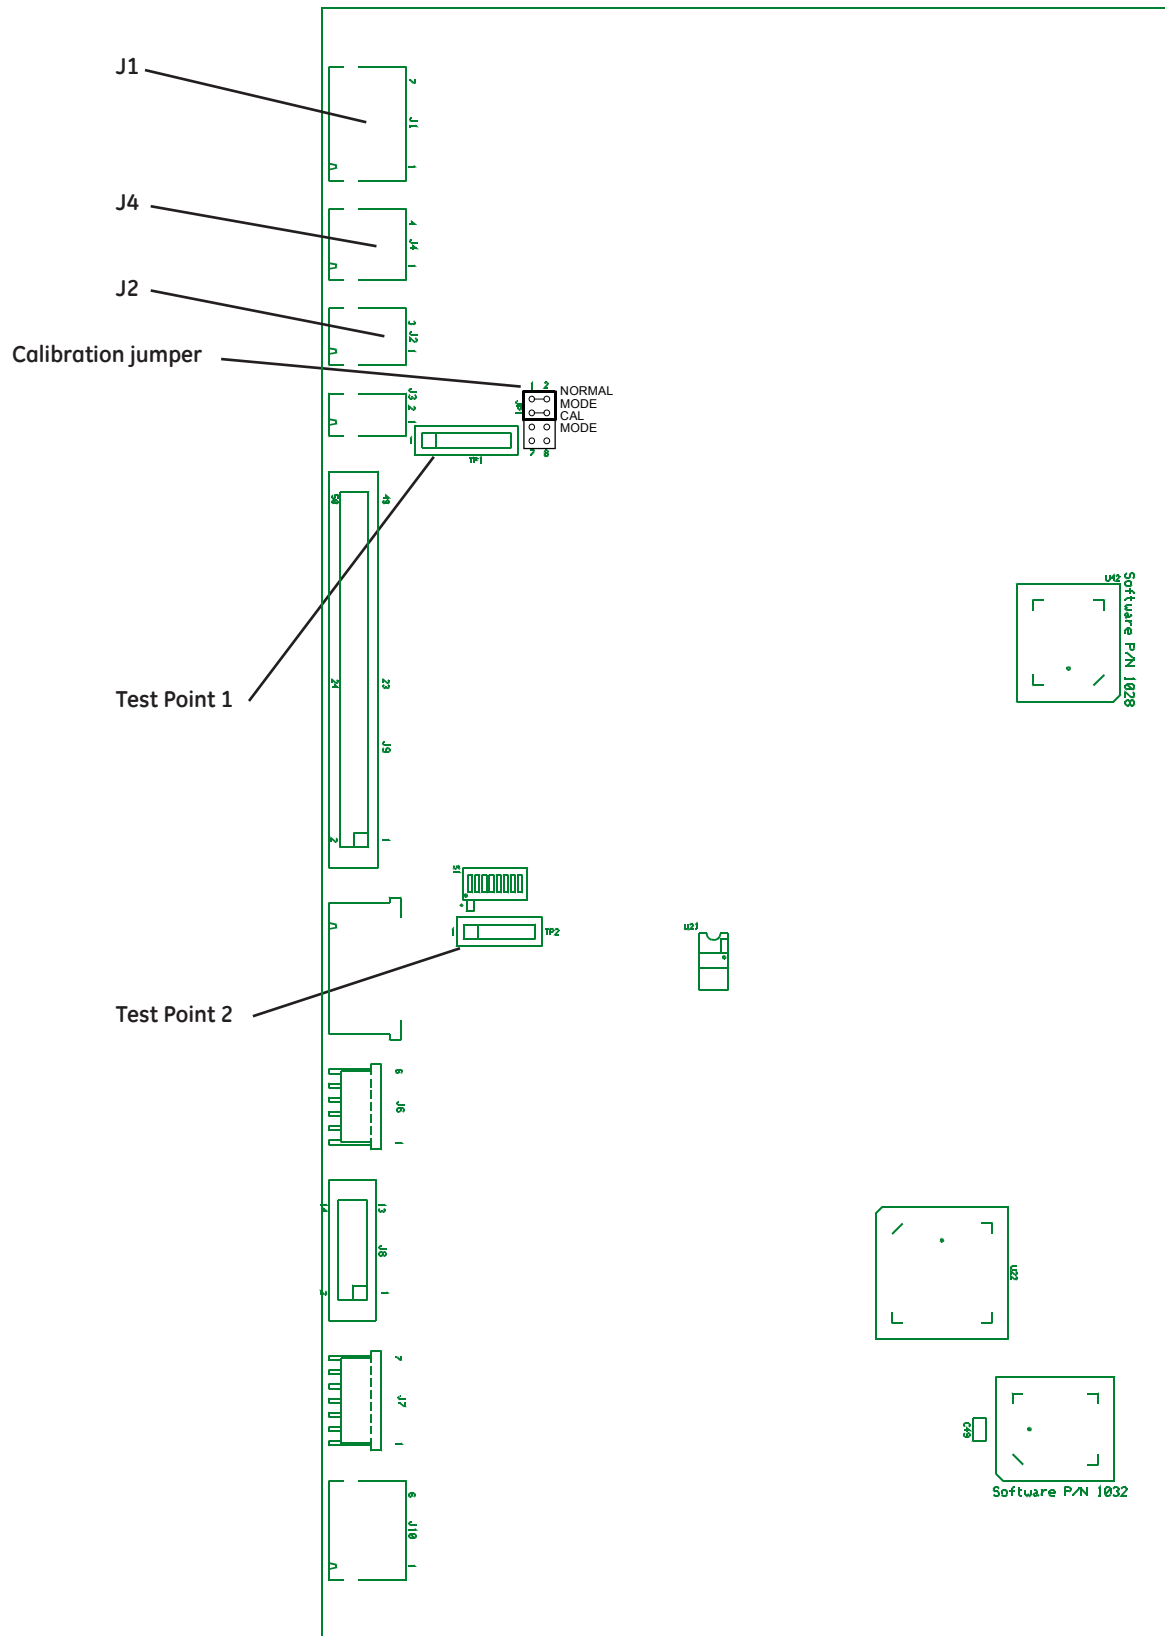

Figure 3-1 Control Board Test Points
4. Move jumper JP1 to the CAL MODE position on the control board. (Refer to "Figure 3-1 Control Board Test Points" on page 20.) Be sure to orient the jumper correctly so pins 5-6 and 7-8 are shorted.